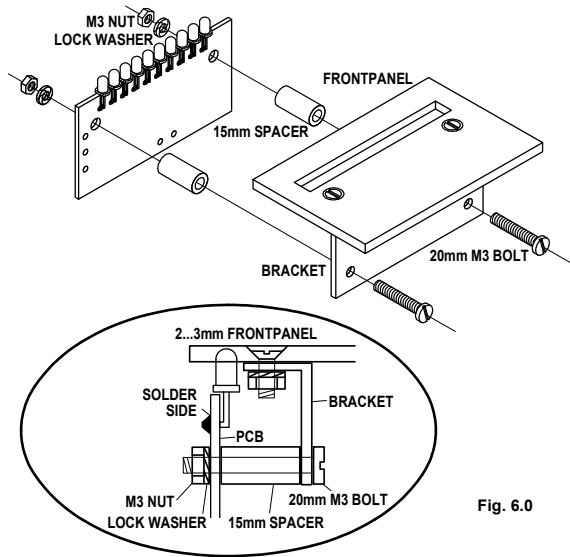

Fig. 6.0
(C) Mount the PCB with spacers onto the bracket (fig. 6.0) :